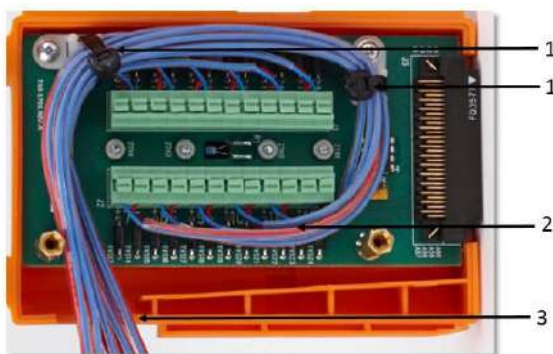

Figure 12: SIM Wiring
4. Once all sensors are connected, route the wire harness around the connectors and out the drain hole. Secure the harness with the tie wraps provided. Follow Figure 12 below to maintain peak module thermal accuracy.